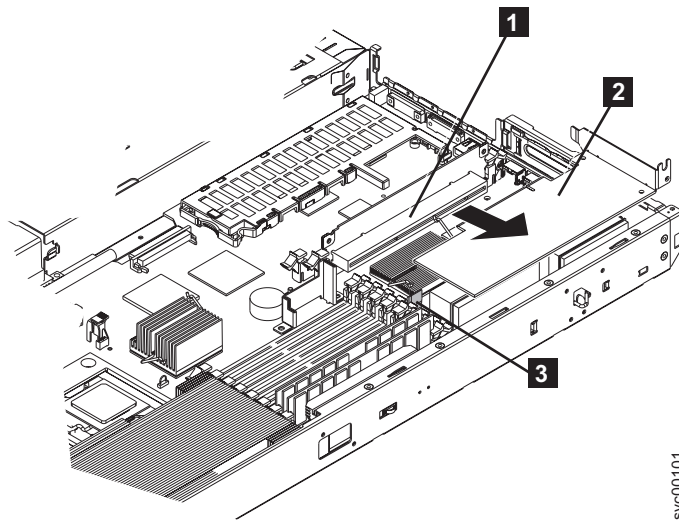

Figure 196. SAN Volume Controller 2145-8F2 riser card and low profile adapter
- b. Hold the blue adapter support away from the card and pull it away from the edge connector on the riser card assembly, as shown in Figure 196.